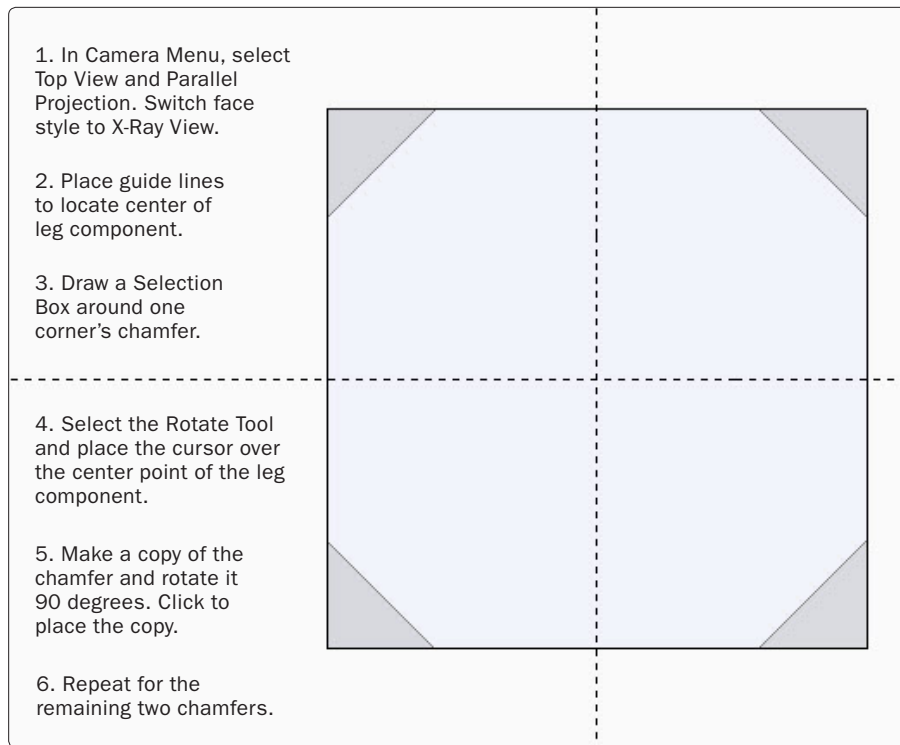

Figure 12. To copy the chamfers, work in X-Ray View and from the top of the leg component.
Step 10 Copy the chamfers to the other three corners of the leg component. In the Camera Menu, select Top View and Parallel Projection. In the View Menu, switch the face style to X-Ray View. This way, looking down on the top of the post, you will see the chamfers you just created in one corner. Draw guide lines, as shown in Figure 12, to find the center of the leg. Select the leg component, right-click, and choose Edit Component from the pop-up menu. Use the Select Tool to draw a left-to-right Selection Box around the chamfers (this will